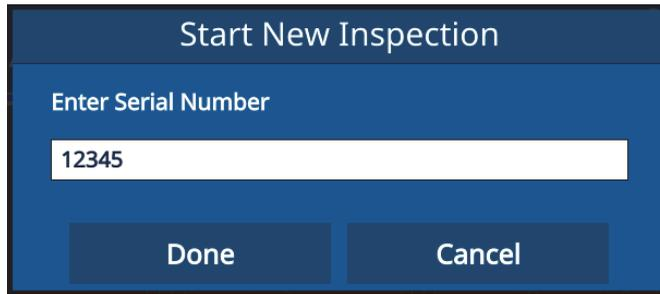

Figure 6-6 Starting New Inspection
2. Select **Yes** from the **Start New Inspection** pop-up window (see Figure 6-6 on page 57).